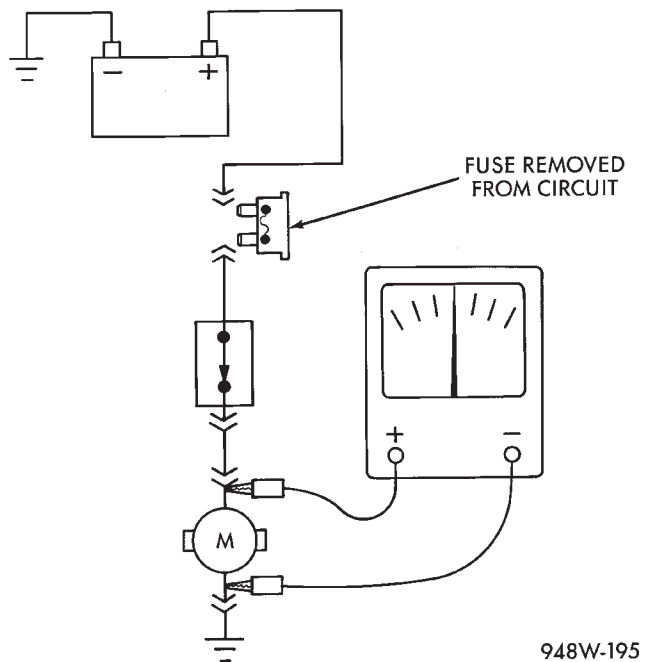

Fig. 7 Testing for Continuity
- (1) Remove the fuse for the circuit being checked or, disconnect the battery.
- (2) Connect one lead of the ohmmeter to one side of the circuit being tested (Fig. 7).
- (3) Connect the other lead to the other end of the circuit being tested. Low or no resistance means good continuity.